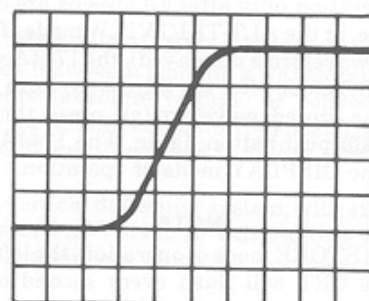

Figure 11. Fast Rise Time, Low Rep Rate Signal "Integrated Up" with PERSISTENCE Control
4. Turn PERSISTENCE **6** slowly clockwise. Observe transition portion of waveform gradually integrates up to bright, easily observed trace (see figure 11).